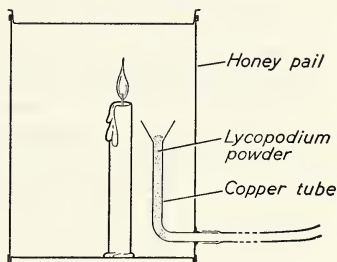

Fig. 27. A dust explosion.
5. (*Demonstration*) Punch a hole in an eight-pound honey pail about one inch from the bottom. Bend a piece of metal tubing about five inches long to form a right angle, and solder a small metal funnel on one end. Push the metal tubing through the hole in the pail and solder it in position, as shown in Figure 27. Place a candle so that the wick is about an inch above the top of the funnel, and attach a piece of rubber tubing about two feet long to the metal tubing.